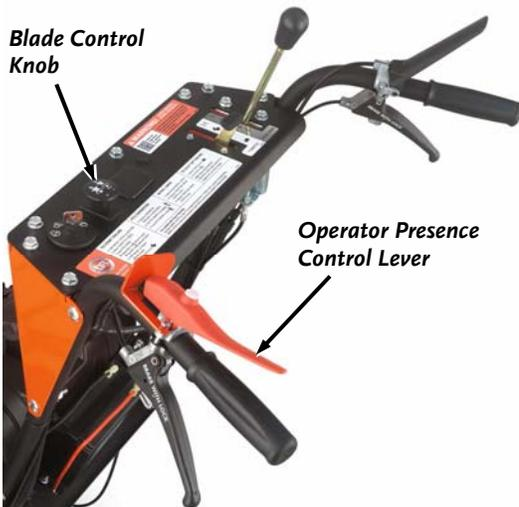

Figure 19
- Push down the Operator Presence Lever against the Handlebar Grip (**Figure 19**).